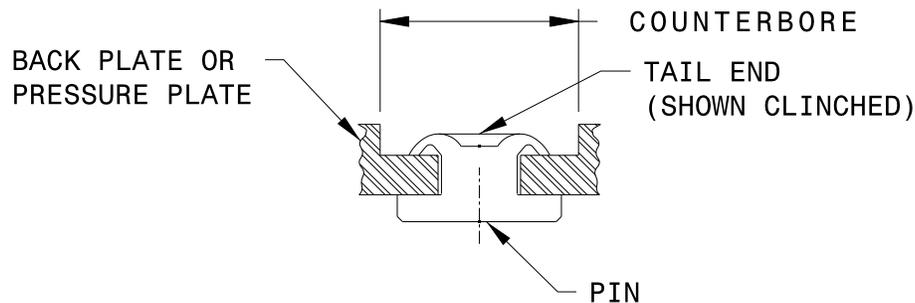

Figure 5 Install the attachment pins
- (4) Install new pins (177-00300). Refer to Figure 5.